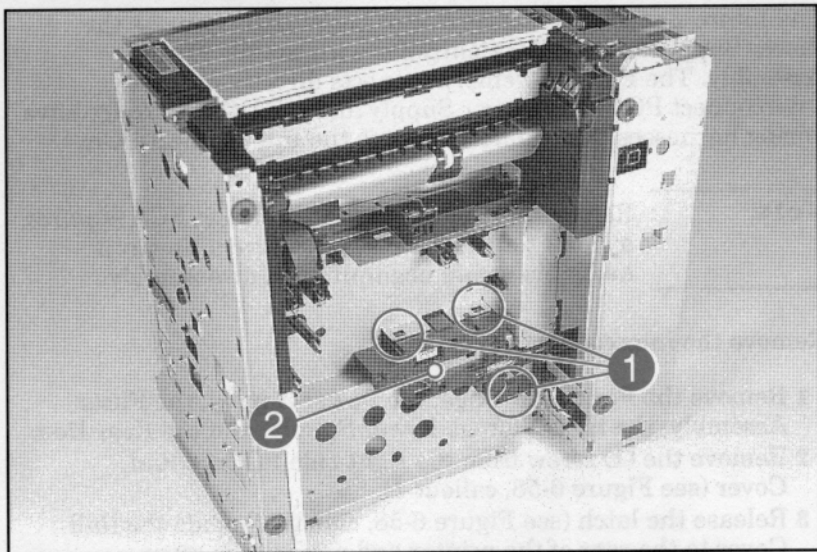

Figure 6-59 Interconnect PCA latches and AC Connector Mounting Pins
- 5 Release the bottom or rear-most latch (see Figure 6-59), callout 1) holding the arm of the Interconnect PCA housing to the sheet metal.